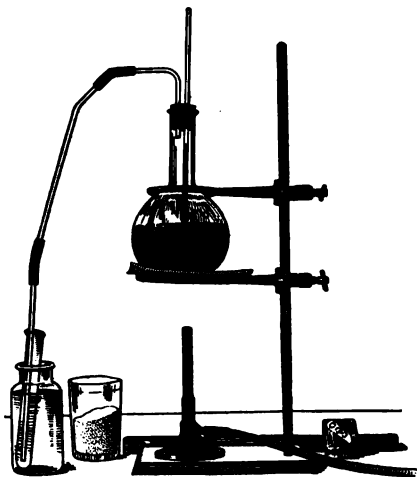

FIG. 21
What to do. 1. Assemble the apparatus as shown in figure 21. Add a small amount of sawdust to the clear water. Note the temperature of the water, then heat it slowly. Note the movement of the sawdust. When the water is boiling vigorously note the temperature. When boiling has begun does the temperature rise if more heat is applied? Remove the Bunsen burner.
4. Add some ink to the water, connect the long tubes shown in figure 21, and let the steam pass into the cold test tube.